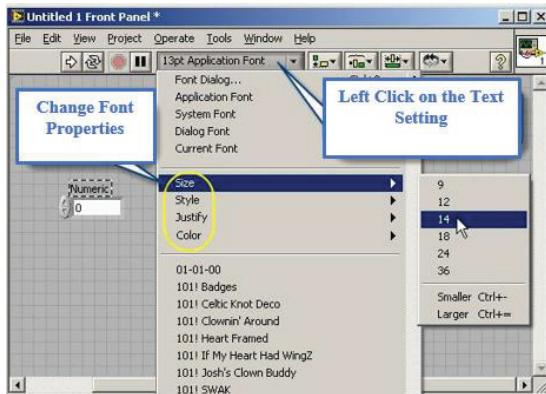

Figure 2.55: Change Font Properties
**Font**, **Style** and **Font Size** can be changed for any text by choosing the text for which you want to modify the font properties and changing the properties from the **Text Setting drop-down menu**, as shown in figure 2.55.